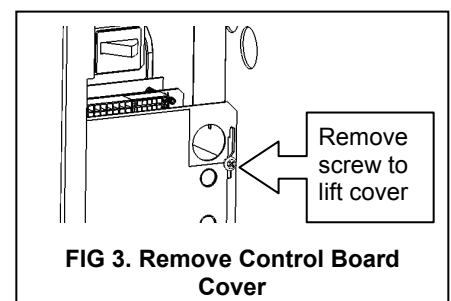

**FIG 2. Disconnect harness plugs**
- Unplug the door harness and glass heater harness (option) from the power panel (See Figure 2).